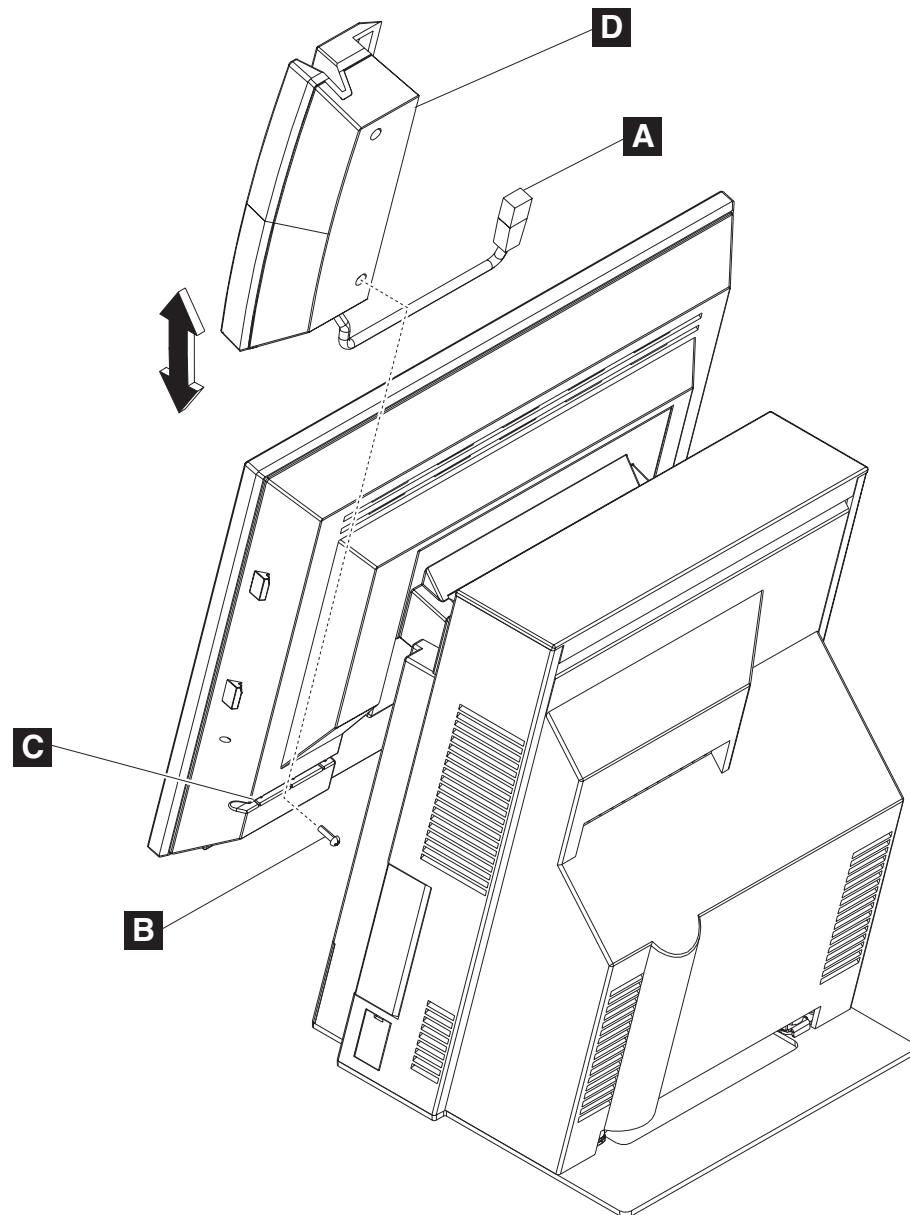

Figure 27. Removing the MSR
2. Unplug the MSR cable **A**, as shown in Figure 27 and remove the cable from the cable groove **C**.